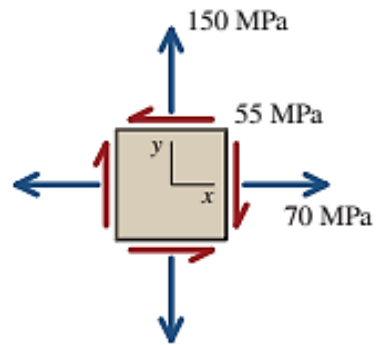

Figure 7/Rajah 7: Plane Stress Condition at a Point / Keadaan Tegasan Satah pada Titik
- (c). Consider a point in a structural member that is subjected to planes stress as shown in Figure 7. Calculate: